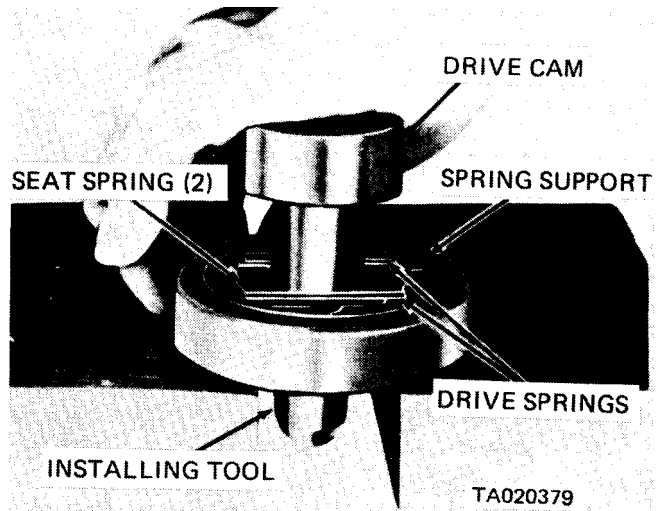

Figure 3-23. Inserting blower drive cam in spring.
(c) Place the drive cam (7) over the end of an installing tool, insert tool between the spring packs and press the cam in place (fig. 3-23).
(19) Position coupling assembly on gear (20).